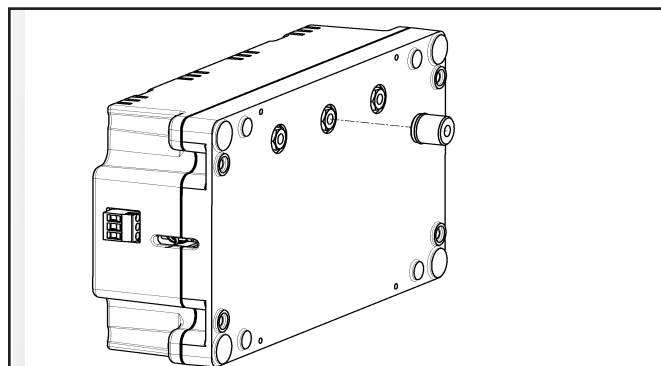

Figure 2. Bus Bar Extension Bushing
3. Before mounting the SPD, first determine the bus bar configuration. If the panelboard uses an offset B-Phase bus bar configuration, no action is required. If the panelboard uses a coplanar bus bar configuration, remove the bus bar extension bushing from the back of the SPD and discard. See Figure 2.